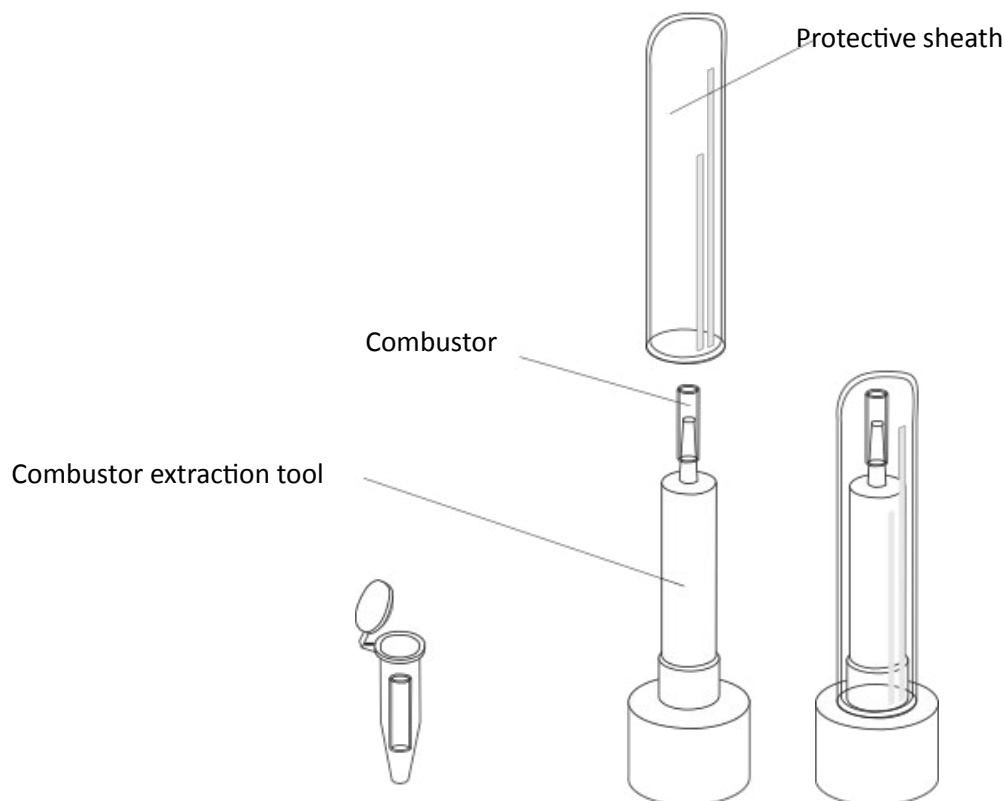

Figure 3.36. Extractor Tool
4. Remove any previously installed combustor (PN 282939C for the 2-mm combustor, PN 282913C for the 3-mm combustor) from within the detector body using the supplied Teflon combustor extraction tool (PN 280719 for the 2-mm combustor, PN 280727 for the 3-mm combustor). Remove the combustor extraction tool from its protective sheath and gently press its conical tip into the combustor top, which is located just below the upper surface of the detector body. Carefully extract the combustor and immediately reinsert the combustor extraction tool and attached combustor into the combustor extraction protective sheath (Figure 3.36).